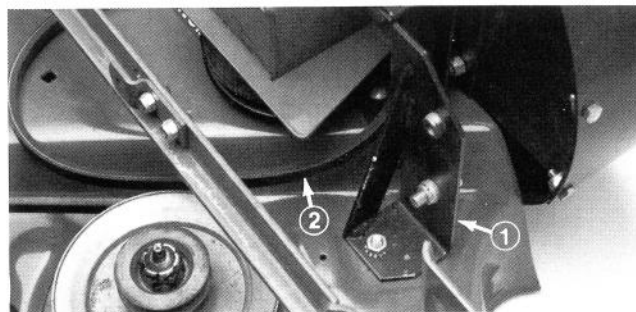
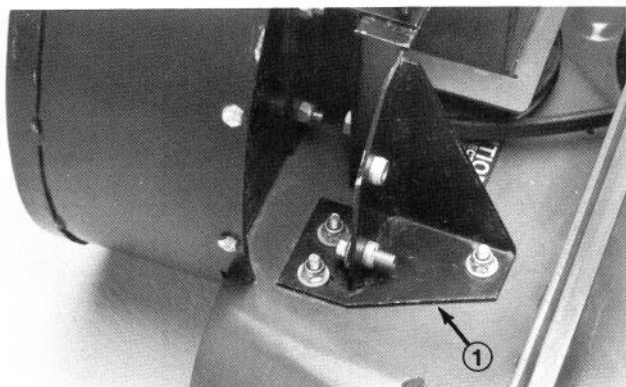

Figure 9
Figure 10
18. Reposition blower and mounting brackets onto deck aligning mounting holes. Route belt around blower pulley before securing to deck. Secure rear bracket and rear baffle to deck with (2) 5/16-18x5/8 carriage bolts and lock nuts (Fig. 9). Secure front bracket and front baffle to deck with (3) 5/16-18x7/8 carriage bolts and lock nuts (Fig. 10)